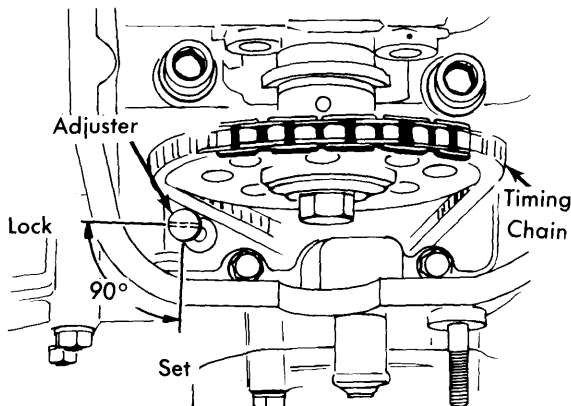

Fig. 6 Locking Timing Chain Adjuster
1) Remove valve cover. Position No. 4 cylinder in firing position. Remove distributor cap and mark rotor position. Lock timing chain adjuster by depressing and turning automatic adjuster slide pin 90° in a clockwise direction (See Fig. 6).